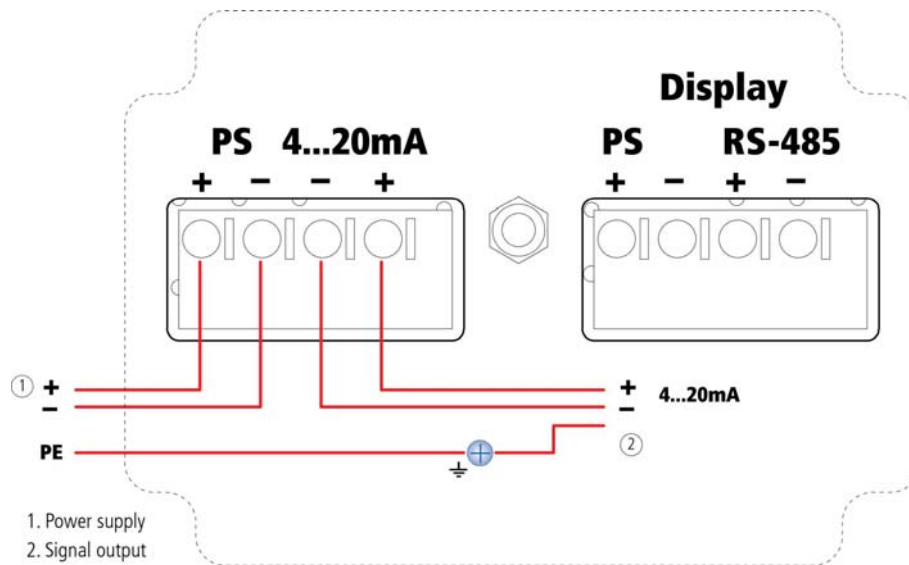

Figure 26 Wiring Plan (4...20 mA/Hart 4-wire)
6. Insert the wire ends into the open terminals according to the wiring plan (see *Figure 26*), and fasten the terminal screws.